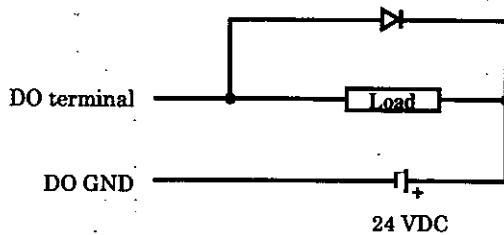

Fig. 10.14 Surge Voltage Suppression by a Diode
- If an inductive load is to be connected, connect a diode in parallel to the load in order to prevent the output terminal voltage from becoming excessively high (Fig. 10.14). The maximum voltage rating is 35 V.